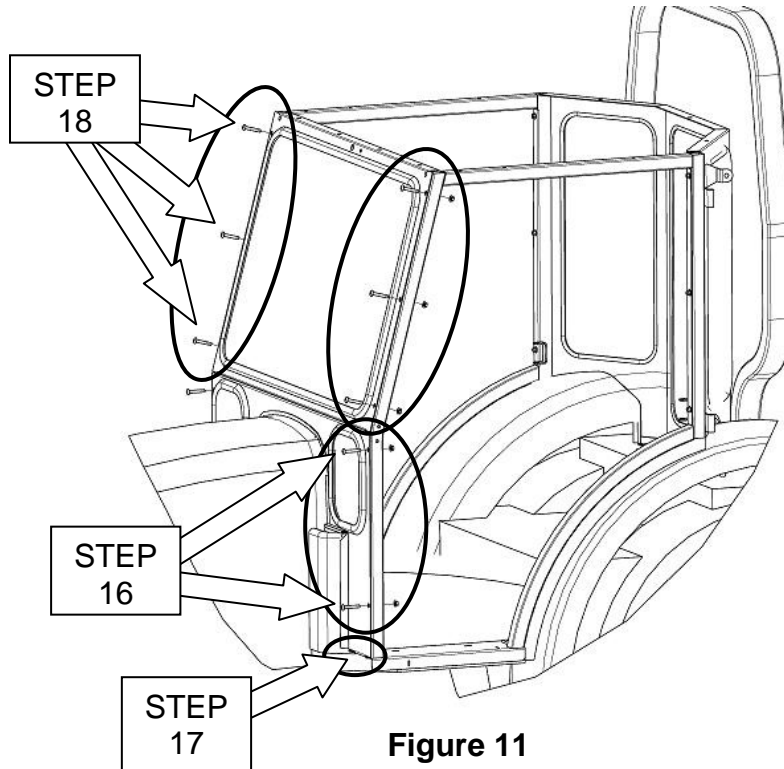

Figure 11
16. Place front lower hood seal assembly onto hood and secure assembly to front of side frame. Secure using (2) 5/16" x 2.00" long button head bolts and (2) 5/16" flange nuts, to each side frame. See figure 11.
17. Secure bottom of front lower hood seal assembly to bottom of each side frame deck plate using (2) 5/16" x 3/4" long button head bolts and (2) 5/16" flange nuts.
18. Secure front upper window assembly to side frames using (3) 5/16" x 2.00" long button head bolts and (3) 5/16" flange nuts on each side. See figure 11.